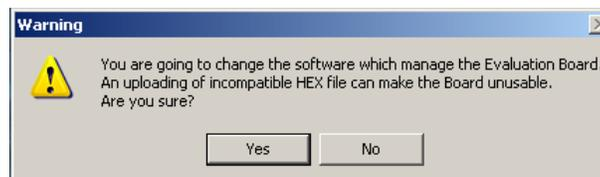

Fig. 5.23
3. Push the button Upload HEX. A warning message appears (Fig. 5.23).